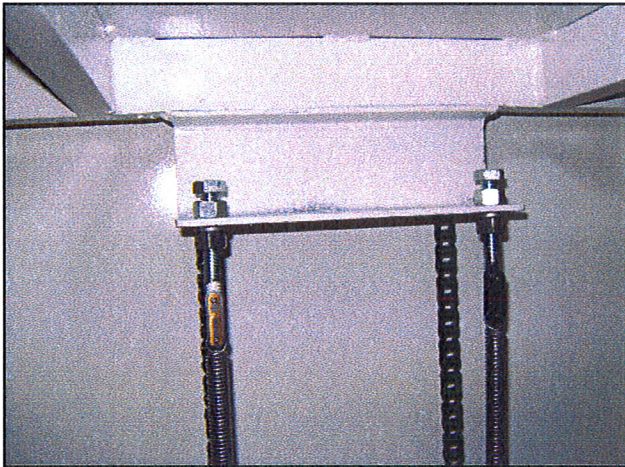

Figure 23
12. The return end of chain should already be attached to bottom of carriage via springs. There should be enough tension on springs to keep chain tight around sprockets on motor when lift is at upper level. If more tension is needed, adjust with bolts. See Figure 23. (Springs should extend approximately 4".)